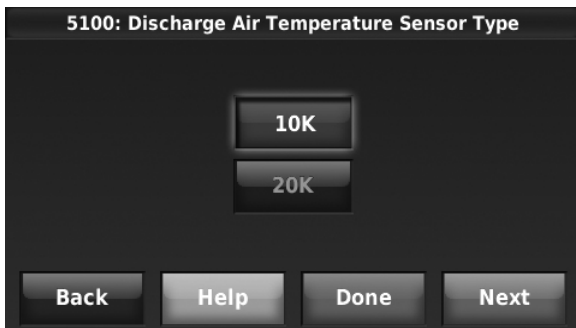

**Fig. 150.**
*Be sure to select the correct terminals for the discharge and return air sensors. For example, if the return air sensor is wired to S1, select S1 (see Fig. 150) for the return air sensor.*